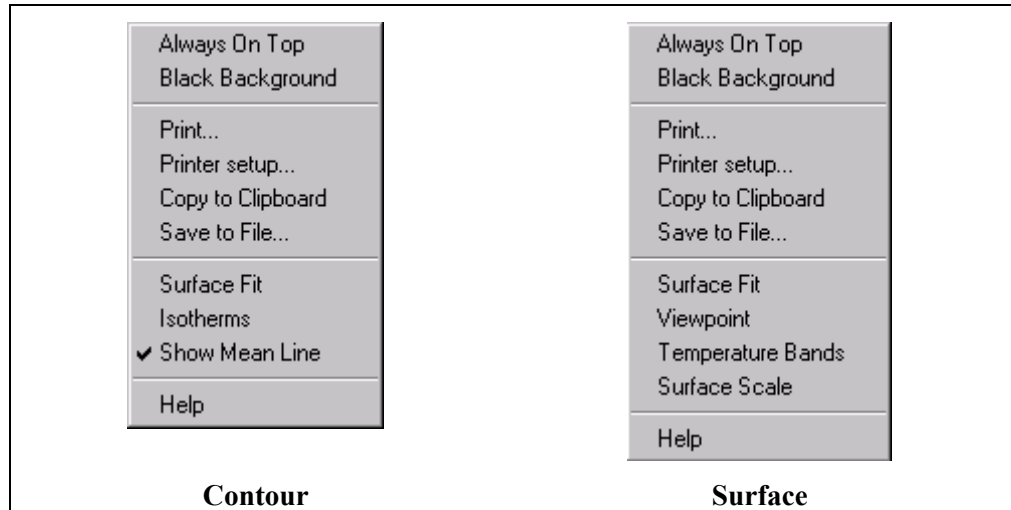

Figure 4-13. Map Menu Items
With contour and surface displays, you can visualize temperature data on a wafer. This section describes options you use to control the representation of data, including menu items from the contour and surface maps, as shown in Figure 4-13.
- ☐ To access the pull-down menus on the contour or surface display, press the **Arrow** icon in the upper right corner of the display to show the menus in Figure 4-13.